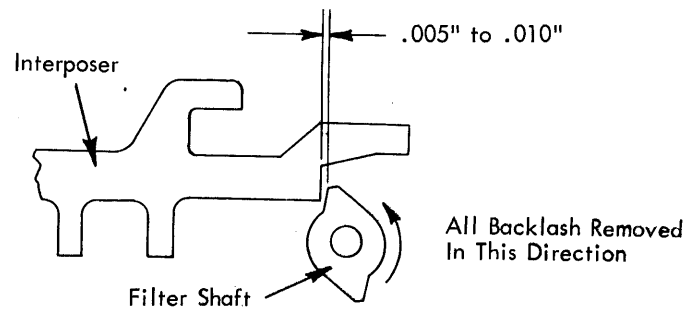

FIGURE 2. Filter Shaft Adjustment
1. Filter Shaft - With the cycle shaft in the rest position, the working surface of the filter shaft should clear a depressed interposer by .005" to .010" (Fig. 2).